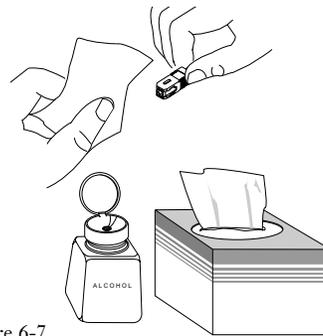

Figure 6-7
- Use a lint-free tissue soaked with isopropyl alcohol to wipe the connector end faces (Figure 6-7).